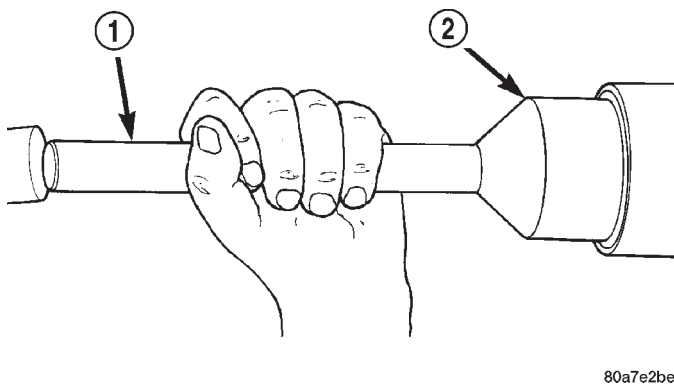

Fig. 7 Pinion Seal Installation
(1) Apply a light coating of gear lubricant on the lip of pinion seal. Install seal with Installer C-3972-A and Handle C-4171 (Fig. 7).